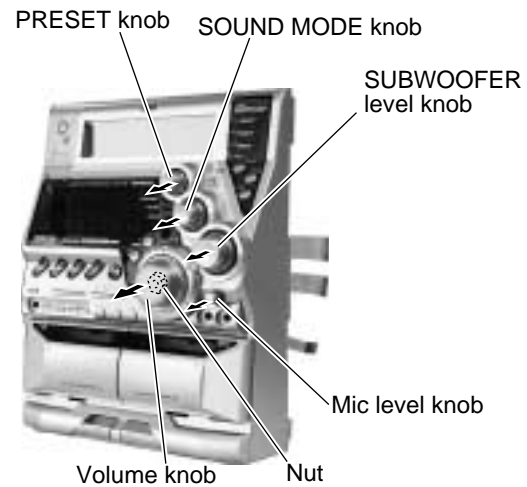

Fig.35
■Removing the operation switch board (See Fig.35, 36)